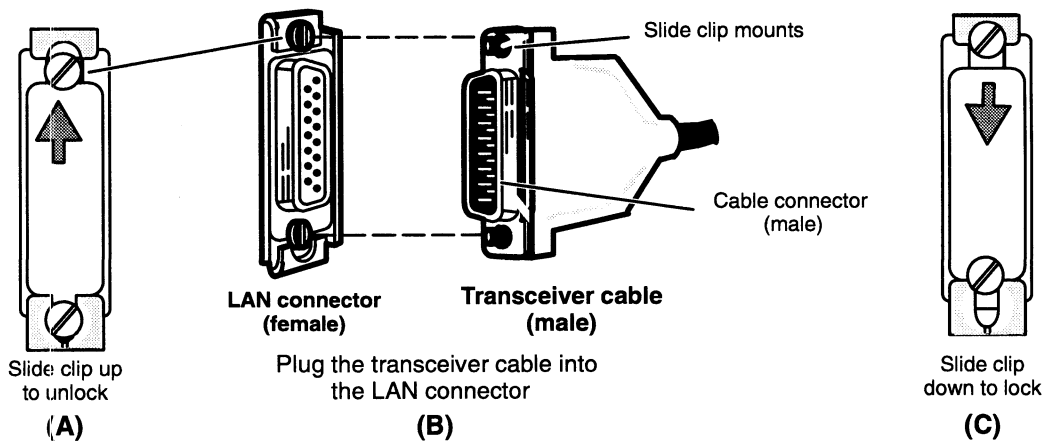

Figure 2-8 Attaching and Securing the LAN Transceiver Cable
2. As shown in Figure 2-8(A) and (B), line up the slide clip on the computer unit connector so that the slide clip mounts on the cable can pass through; then push the cable firmly into the connector.
3. Once the cable and clip mounts are secured to the connector, slide the clip using your screwdriver or a comparable tool to lock the cable in place, as shown in Figure 2-8(C).